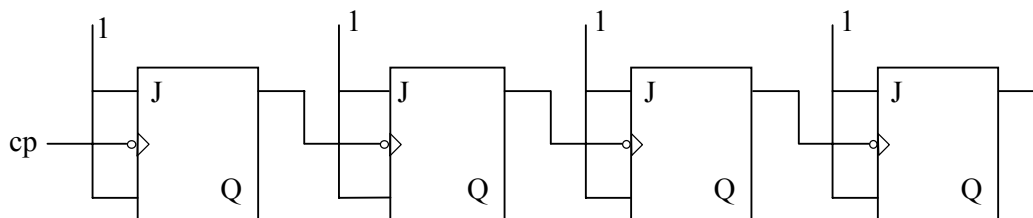

Fig. 3 4-bit ripple counter
- a) In the pre-lab construct a 4-bit asynchronous counter shown in Fig.3. (It is also called binary ripple counter). Use four generic JK flip-flops. Connect four Binary Probes to Q outputs. Connect all R and S inputs to Logic 1 and connect a switch to the CP input.